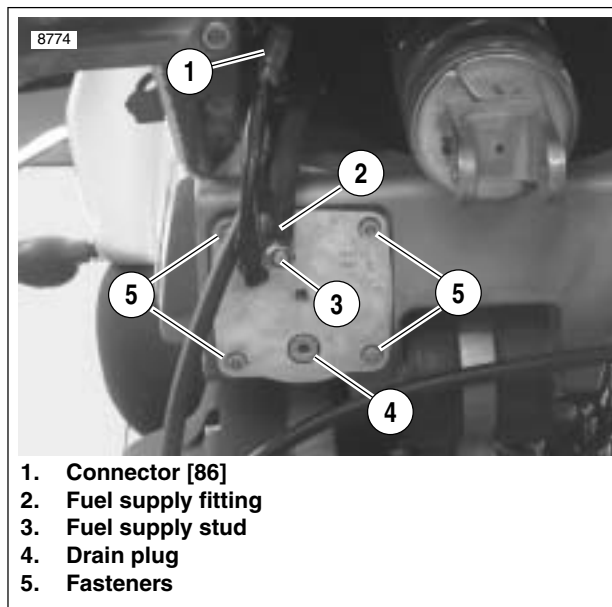
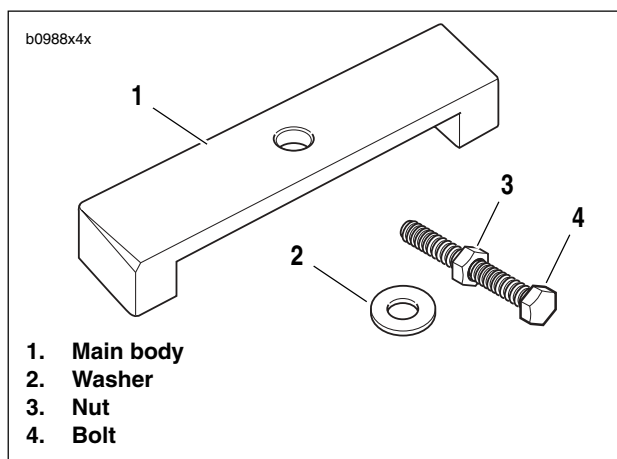
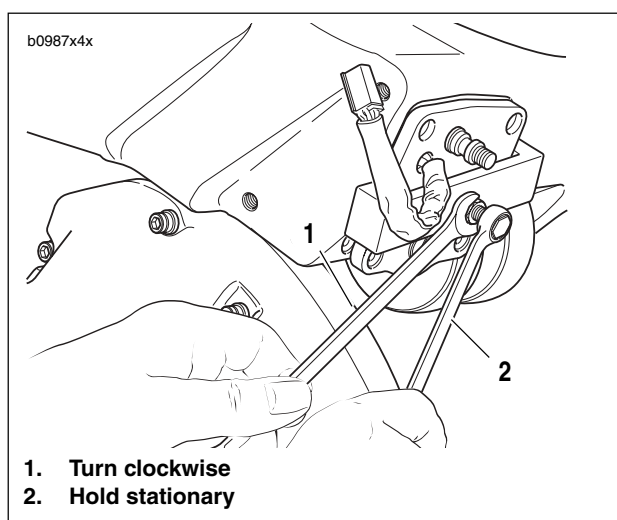

Figure 4-85. Fuel Pump Location
Figure 4-86. Fuel Pump Puller
Figure 4-87. Fuel Pump Removal
- a. See Figure 4-85. Disconnect the 4-place fuel pump connector (1) [86]. Connector is located inside the left rear portion of the fuel tank/frame.
4. See Figure 4-85. Remove fuel line from fuel supply fitting (2).
5. Remove four fuel pump fasteners (5).
6. See Figure 4-86. Assemble fuel pump puller.
- a. Thread nut (3) onto bolt (4).
- b. Slide washer (2) onto bolt.
- c. Insert bolt assembly into hole in main body (1).
7. See Figure 4-87. Place the main body of the fuel pump puller over the fuel pump assembly.